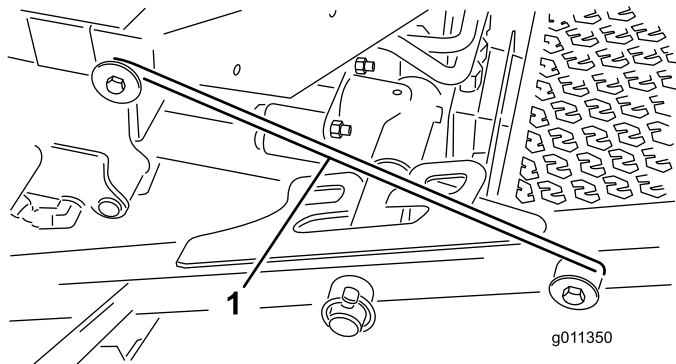

Figure 36
4. Release the latch rod (Figure 36) from front carrier frame retainer.
5. Lift the outside of the front cutting decks and place the latch over the frame pin mounted on the front of the operator's platform (Figure 36).